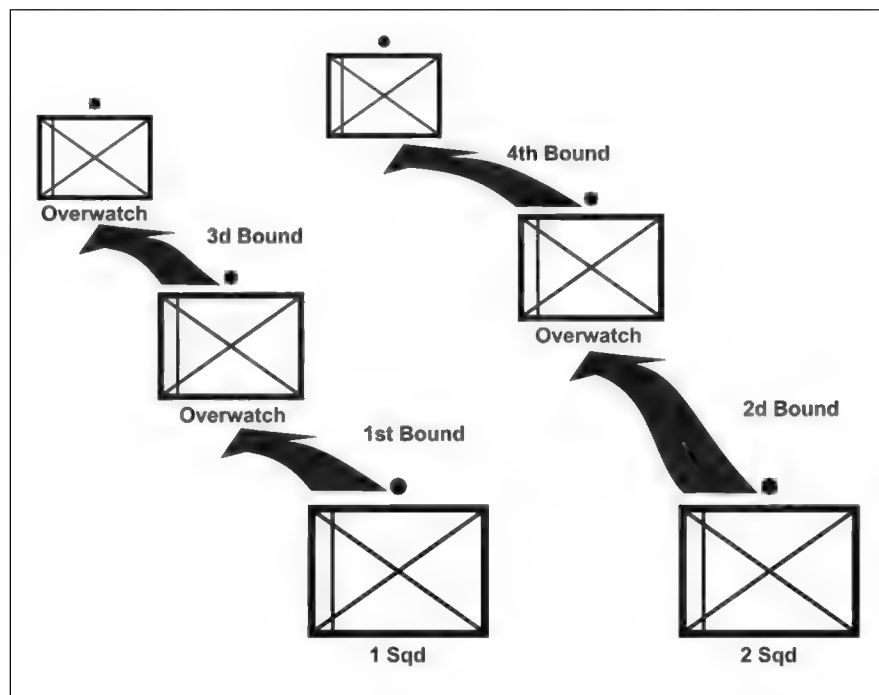

Figure F-13. Bounding overwatch movement technique.
(3) **Bounding Overwatch.** The squad or platoon uses *bounding overwatch* (Figure F-13, page F-9) when they expect contact with the enemy. This is the slowest movement technique, but it provides the most security.